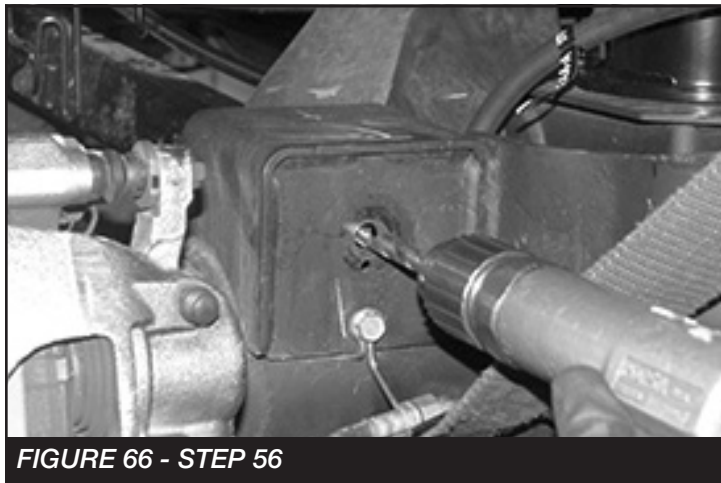

FIGURE 66 - STEP 56
56. Next, using a 1/2" bit, drill the old brake line bracket hole to allow for the new track bar support bracket in a future step. **SEE FIGURE 66**